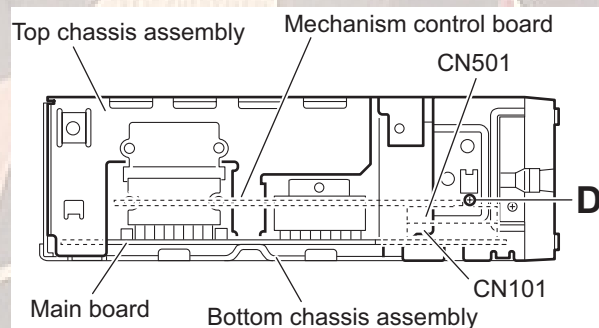

Fig.5
- (3) Lift the top chassis assembly in the direction of the arrow, and disconnect the connector CN501 on the mechanism control board from the connector CN101 on the main board. (See Figs.5 and 6)
- (4) Take out the top chassis assembly from the bottom chassis assembly.